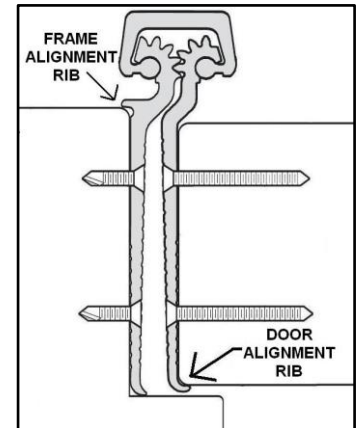

Fig. 2
1. With the hinge open, place the hinge door leaf against the edge of the door making certain that the door alignment rib is flush against the door face along its entire length. (See Fig. 2). Position the top of the hinge flush with the top of the door.